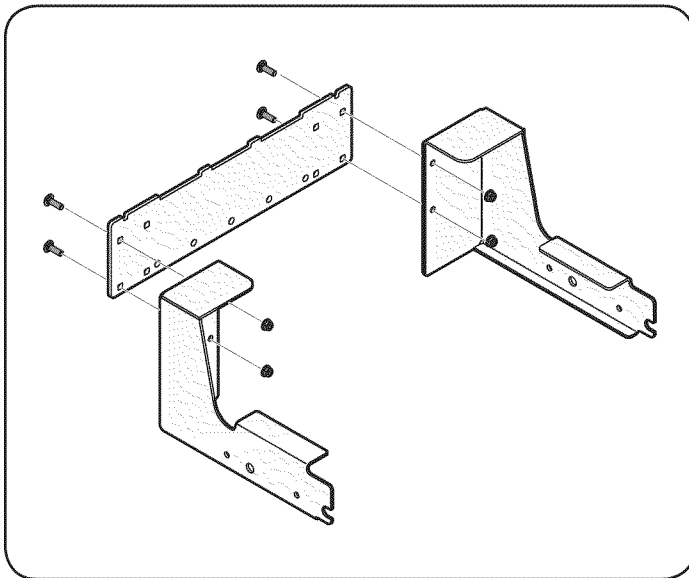

Figure 1
To assemble the bagger mounting assembly, locate the mounting assembly parts, as shown in Figure 1, and follow these steps:
1. Attach the two hitch side brackets to the rear attachment bracket using four 710-0276 carriage bolts and 712-04063 flange lock nuts from hardware pack 689-00320. See Figure 1.